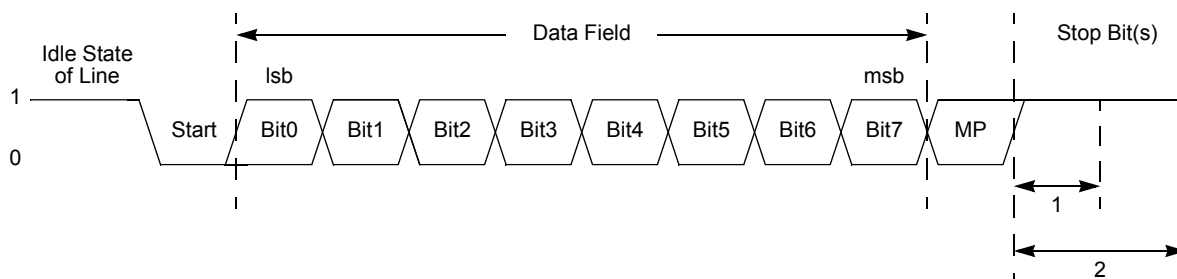

Figure 13. UART Asynchronous MULTIPROCESSOR Mode Data Format
The UART has a MULTIPROCESSOR (9-bit) mode that uses an extra (9th) bit for selective communication when a number of processors share a common UART bus. In MULTIPROCESSOR mode (also referred to as 9-bit mode), the multiprocessor bit (MP) is transmitted immediately following the 8-bits of data and immediately preceding the Stop bit(s) as displayed in Figure 13. The character format is: